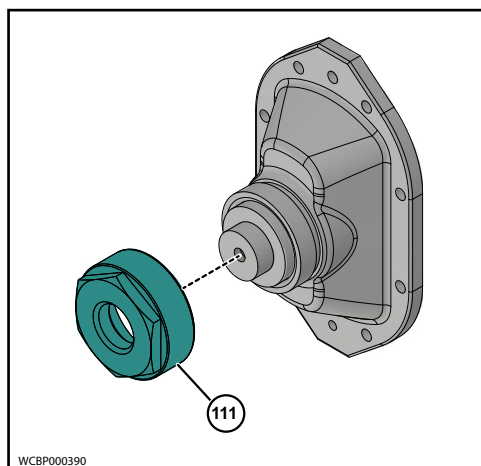

Figure 95 - Remove Cover Nut
1. Remove the Cover nut (111), as shown in Figure 95.